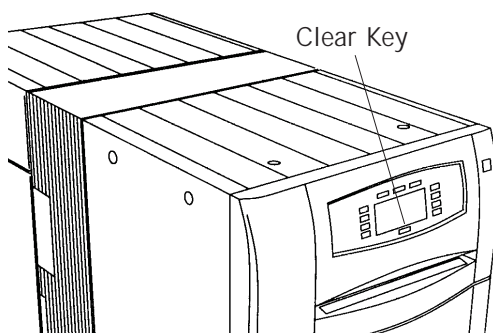

figure 4
2. Press the "Clear" key of the ML 700/ML 700 Plus (fig. 4 and 4.1) thus switching off the ML 700/ML 700 Plus alarm sound.